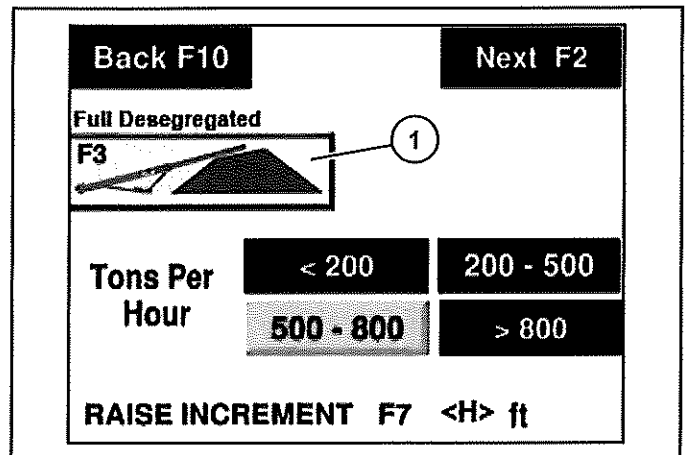
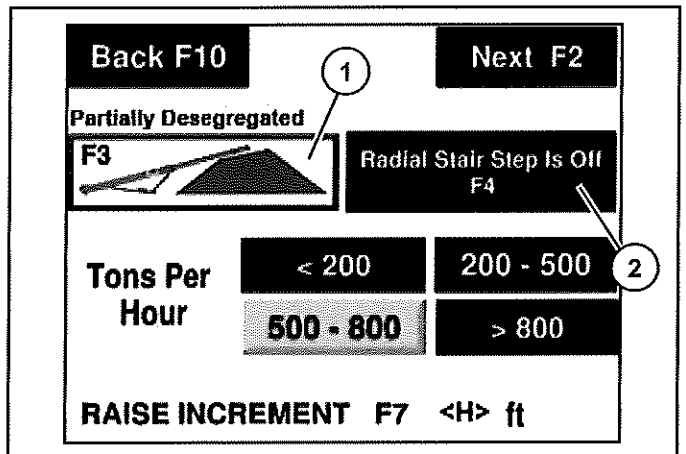

Figure 58
Figure 59
3. To choose between a Fully Desegregated Pile (Item 1) (Figure 58) and Partially Desegregated Pile (Item 1) (Figure 59) by pressing the screen or [F3].
The partially desegregated menu will show the Radial Stair Step option (Item 2) (Figure 59). Press the screen or [F4] to turn on or off this operation.